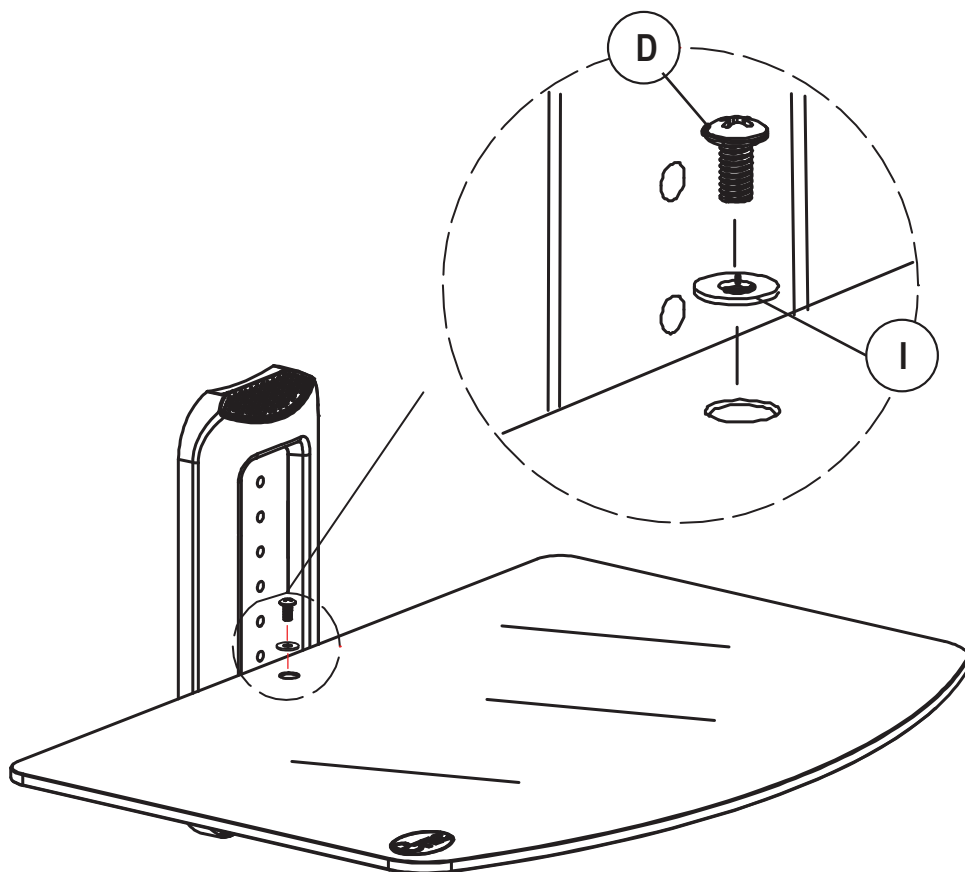

Fig. 7
Secure each **Glass Shelf (4)** by inserting the **Washer (I)** and **Shelf Security Bolt (D)** into the hole in the **Glass Shelf (4)** as shown in Fig. 7.